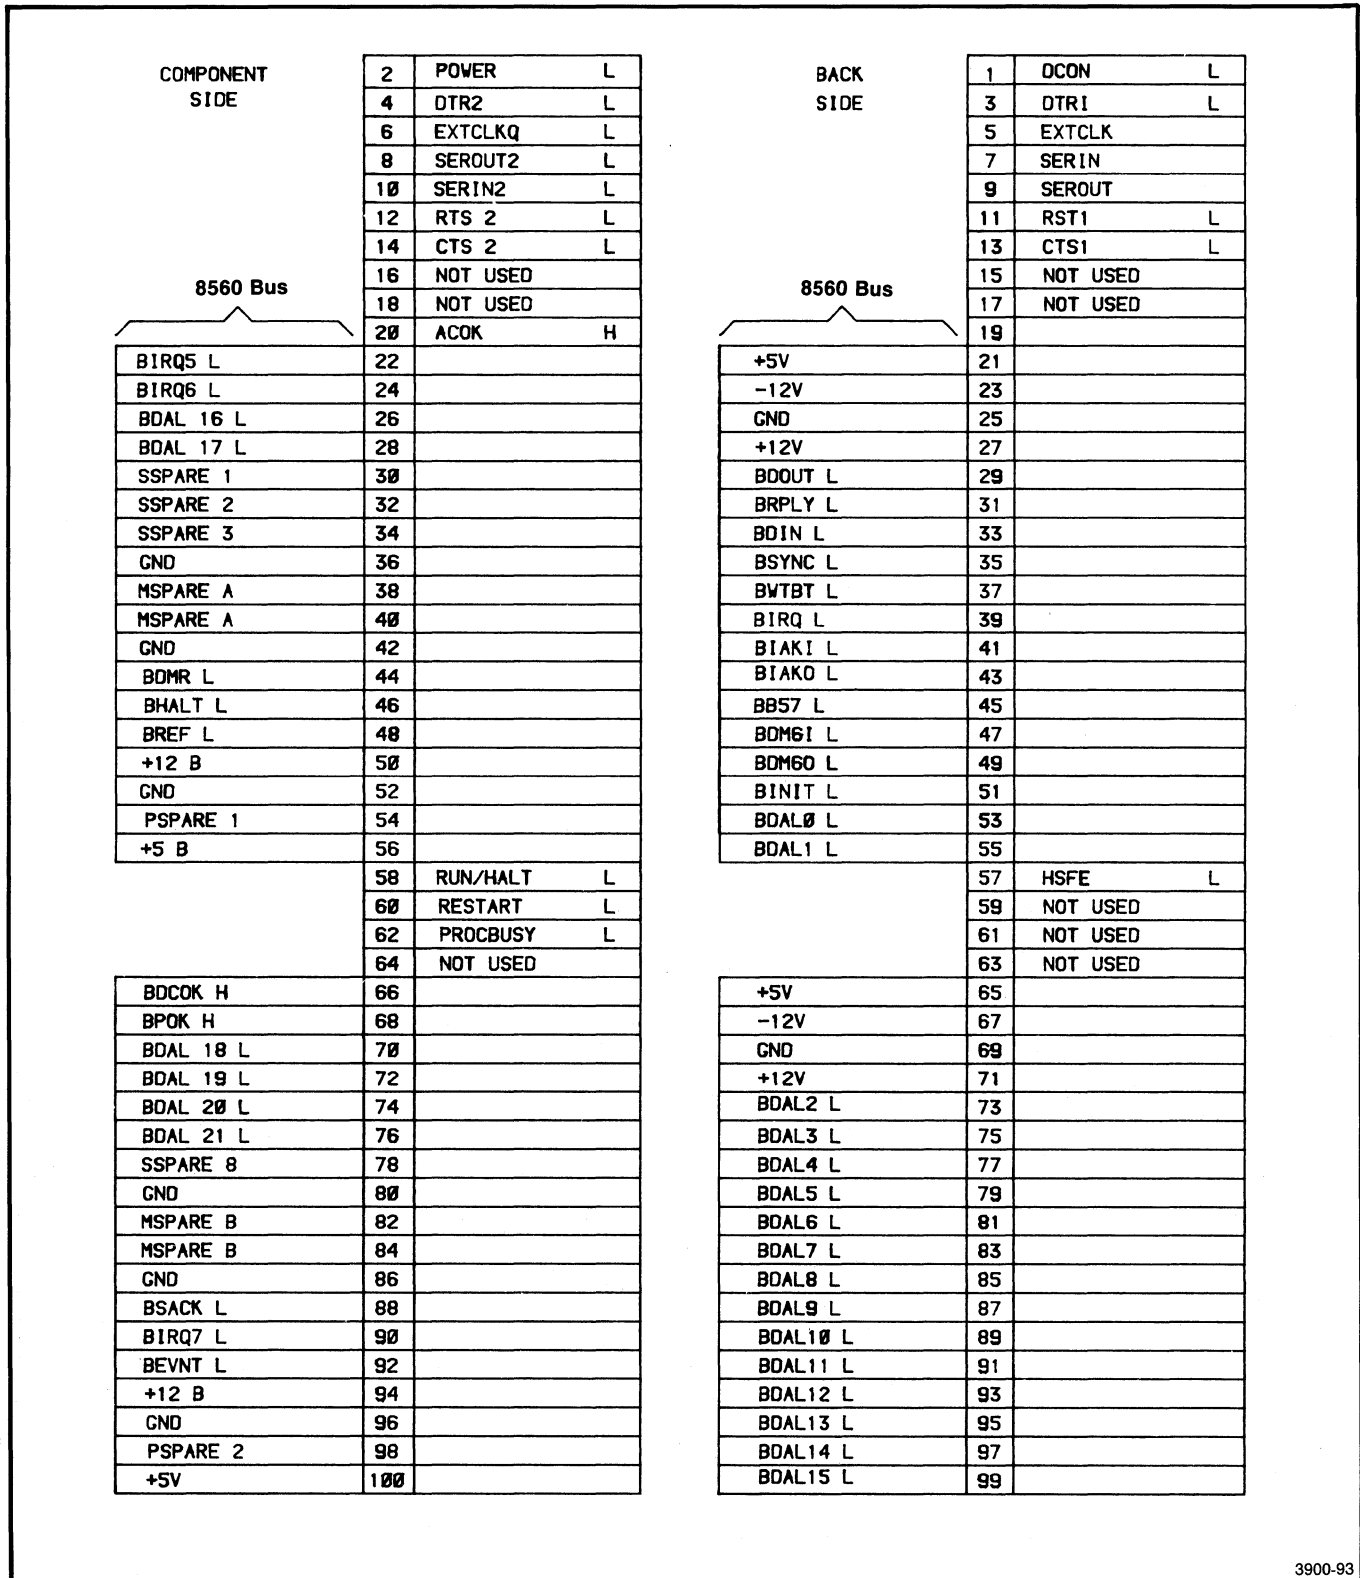

Fig. 19-6. J13 Utility Board.
- J13—Utility Board (Fig. 19-6)